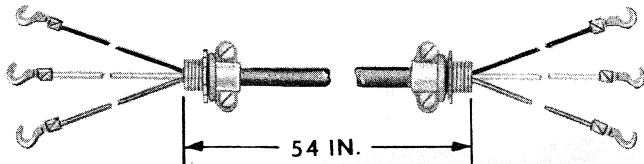

Fig. 8 — KS-16797, List 14 Cable Assembly
9. KS-16797, LIST 14 CABLE ASSEMBLY (FIG. 8)